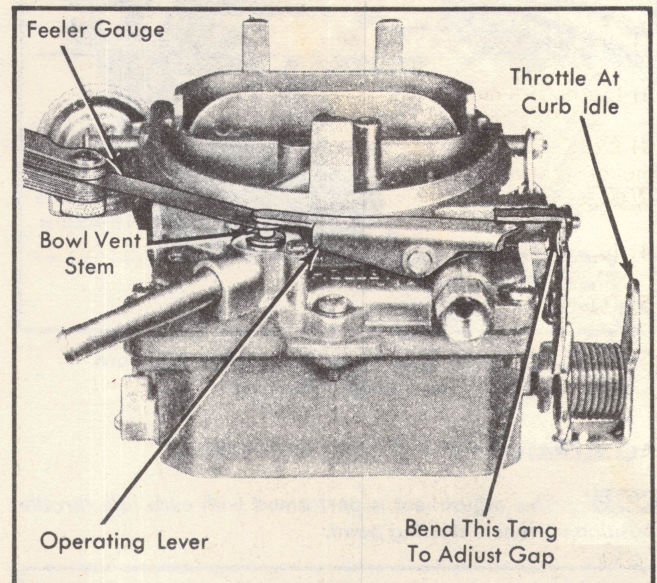

Fig. 8 Using Feeler Gauge To Check Bowl Vent Valve Clearance
- 2) Insert .025" feeler gauge between vent valve plunger stem and operating rod. See Fig. 8.